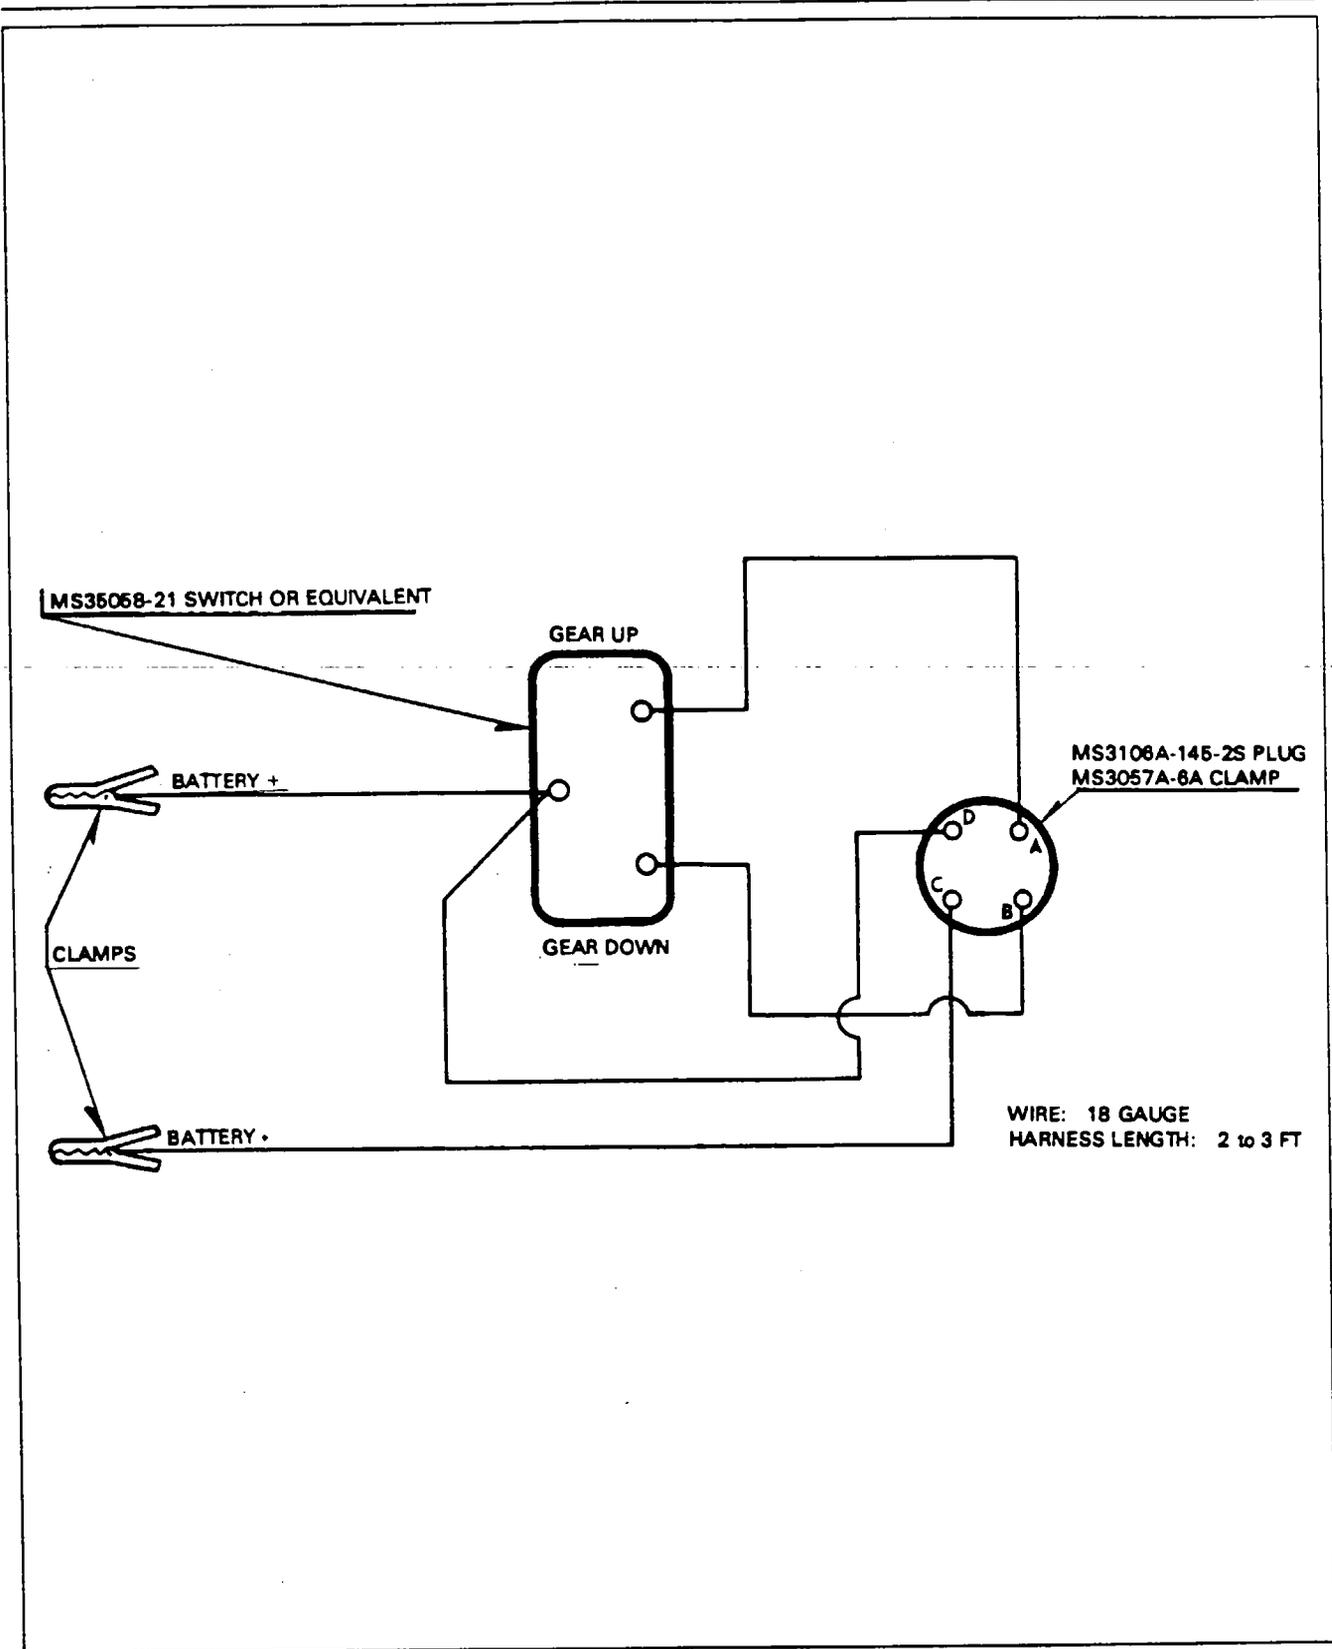

Figure 29-11. Power Pack Test Harness Schematic
*For the control of the door valve solenoid, it will be necessary to fabricate an electric harness as shown in Figure 29-11. This harness, when connected to a 24-volt battery will allow control of the electrical current to the door valve solenoid, permitting operation of the hydraulic door circuits.*
2. Connect a test harness to the electrical plug of the Power Pack and to power source. (Test harness may be fabricated as shown in Figure 29-11.)